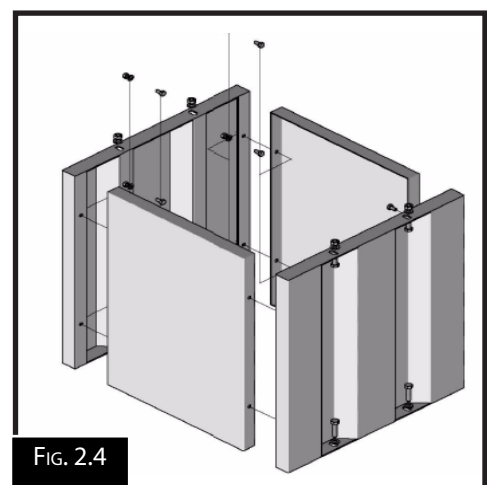

FIG. 2.4
- Fit the side panels of the machine stand as shown in the diagram Fig. 2.4.